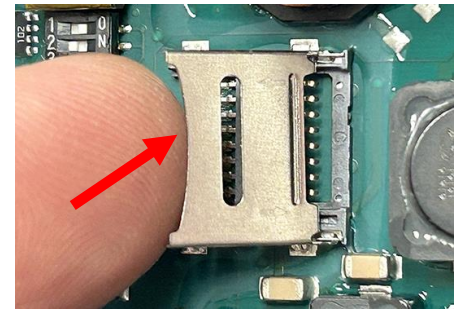

Figure 16
17. Gently lift the lock and flip all the way open (see Figures 16 & 17).